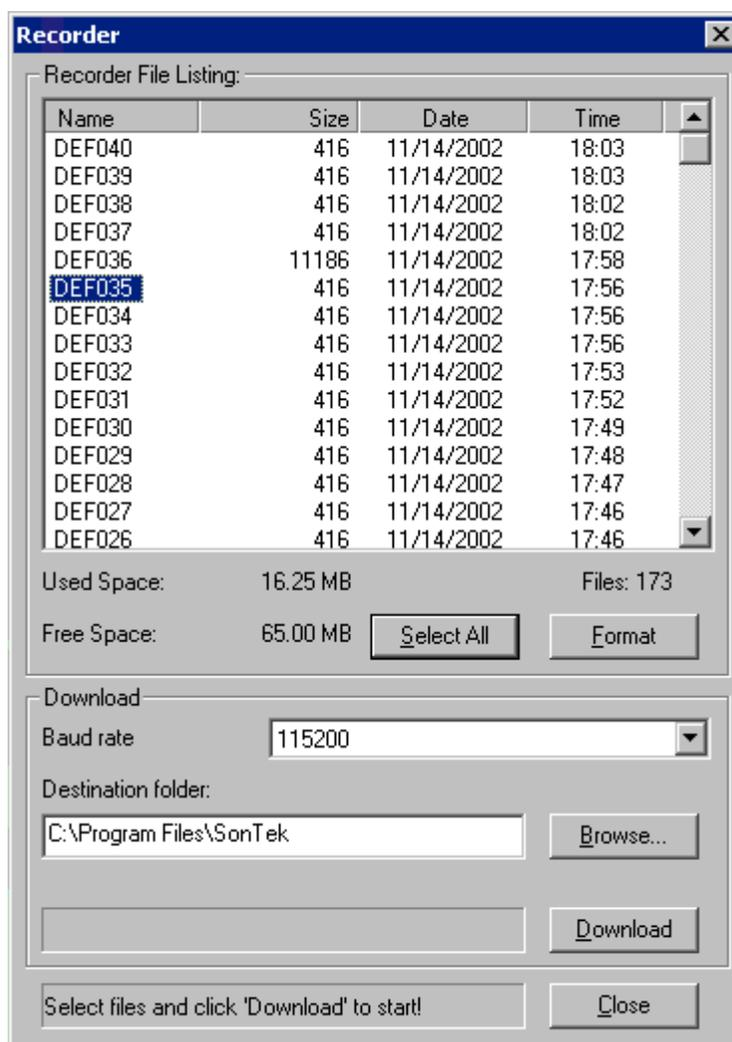

Figure 15 – Recorder Dialog Box
When you have connected to a FlowTracker system, the *Recorder* module (Figure 15) becomes available. *Recorder* is used to download binary data files from the internal recorder (§6.4.1), and to format (erase) data files from the internal recorder (§6.4.2).
- Click **Recorder** to open the dialog box (Figure 15). This action will establish communication and display the recorder's directory. Note: The **Recorder** option is only available after you have successfully connected to a FlowTracker system.